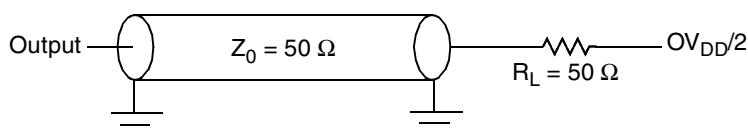

Figure 14. Local Bus C Test Load
Figure 14 provides the AC test load for the local bus.
1. All outputs are measured from the midpoint voltage of the falling/rising edge of t_{TCLK} to the midpoint of the signal in question. The output timings are measured at the pins. All output timings assume a purely resistive 50-Ω load (see Figure 14). Time-of-flight delays must be added for trace lengths, vias, and connectors in the system.
2. The symbols used for timing specifications follow the pattern of $t_{(first\ two\ letters\ of\ functional\ block)(signal)(state)(reference)(state)}$ for inputs and $t_{(first\ two\ letters\ of\ functional\ block)(reference)(state)(signal)(state)}$ for outputs. For example, $t_{JTDV KH}$ symbolizes JTAG device timing (JT) with respect to the time data input signals (D) reaching the valid state (V) relative to the t_{JTG} clock reference (K) going to the high (H) state or setup time. Also, $t_{JTDX KH}$ symbolizes JTAG timing (JT) with respect to the time data input signals (D) went invalid (X) relative to the t_{JTG} clock reference (K) going to the high (H) state. Note that, in general, the clock reference symbol representation is based on three letters representing the clock of a particular functional. For rise and fall times, the latter convention is used with the appropriate letter: R (rise) or F (fall).